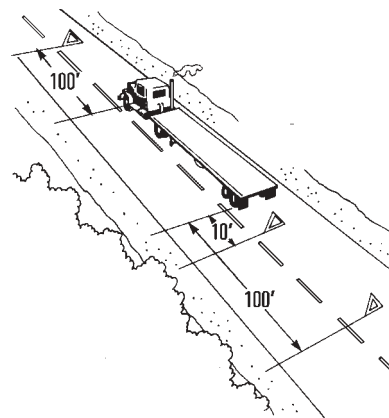

Figure 2-5 Two Lane or Undivided Highway
- On a two-lane road with traffic in both directions or on an undivided highway, place warning devices within ten feet of the front or rear corners to mark the location of the vehicle and 100 feet behind and ahead of the vehicle, on the shoulder or in the lane in which you stopped. (Figure 2-5)
- On the traffic side of the vehicle, within ten feet of the front or rear corners—to mark the location of the vehicle. (Figure 2-5)